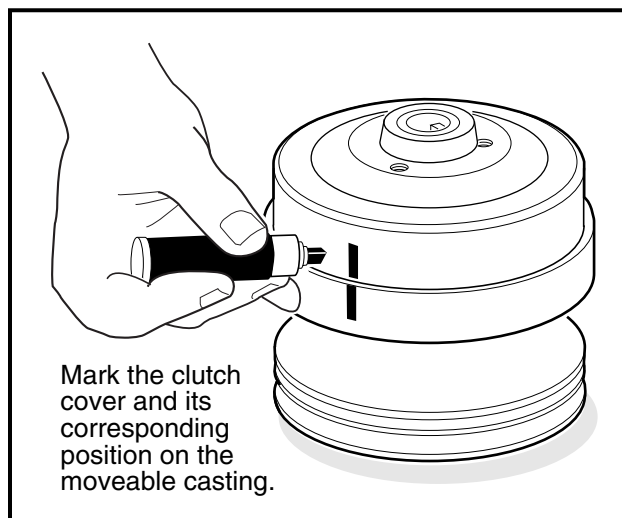

Figure 17-5 Mark Clutch Cover
- The drive clutch is balanced as an assembly. Before disassembly, make match marks on the clutch cover and on the moveable face assembly so they can be reassembled in the same positions (Figure 17-5, Page 17-6).
1. Make match marks on the clutch drive hub and on the moveable face casting (Figure 17-5, Page 17-6).